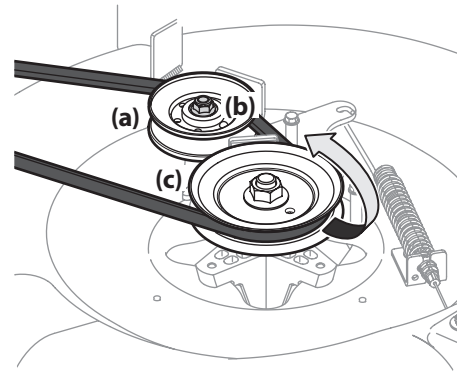

Figure 4-12
7. Loosen the idler pulley (24" decks only) (a) by loosening the flange lock nut (b) that secures it, enough to allow clearance for the belt to move past it and off. Remove the belt by working it off of the deck drive pulley (c) and idler pulley (a). See Figure 4-12.